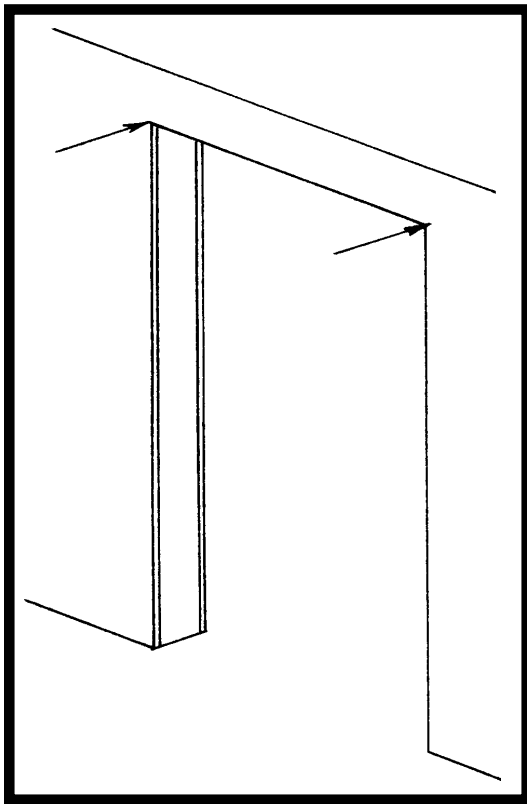
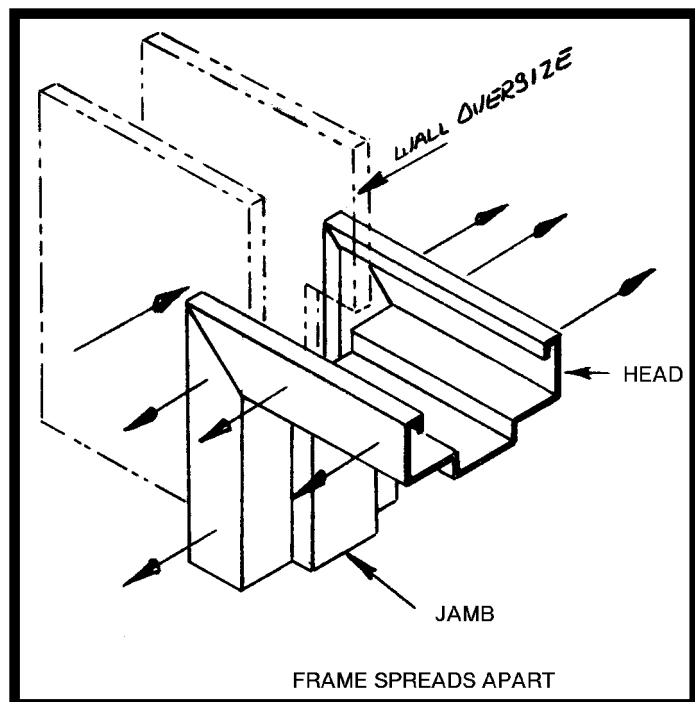
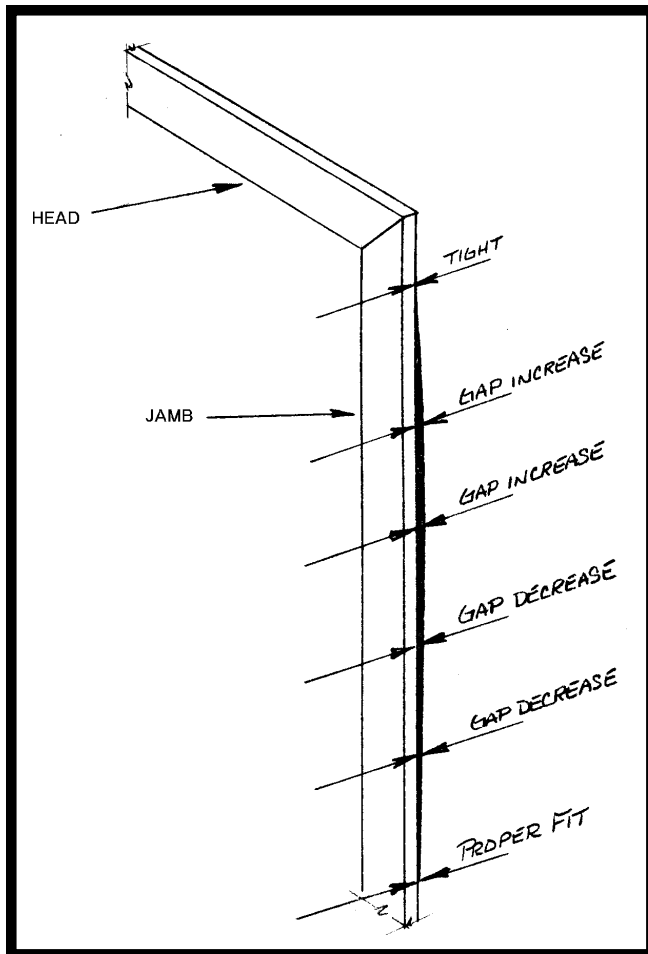

Figure 5
Figure 6
Figure 7
This condition could also be caused by conditions as explained in the “Frame Loose on Drywall” Section, figures 5 and 6.
- B) The second condition would be a gap that changes along the length (height) of the jamb. This condition is generally found in steel stud construction and results in "over thick" walls in the upper corners of the opening, refer to figure 5. This is generally a direct result of how the steel stud headers were attached to the vertical steel studs to form the opening.* When the wall is oversize in this area it will force the header and jamb miters to spread apart and actually open up the throat dimensions to accept the oversize wall, refer to figure 6. This will cause the corners of the frame to be extremely tight on the wall and as you progress down the jamb, a gap will begin to develop and then gradually disappear as you get closer to the floor, refer to figure 7.